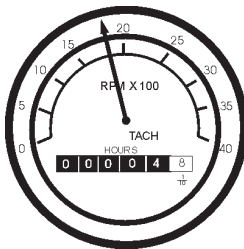

Figure 51. Engine Tachometer
14. The tachometer (Figure 51) will indicate the speed of the engine when the generator is operating. Under normal operating conditions this speed is approximately 1800 RPM's.